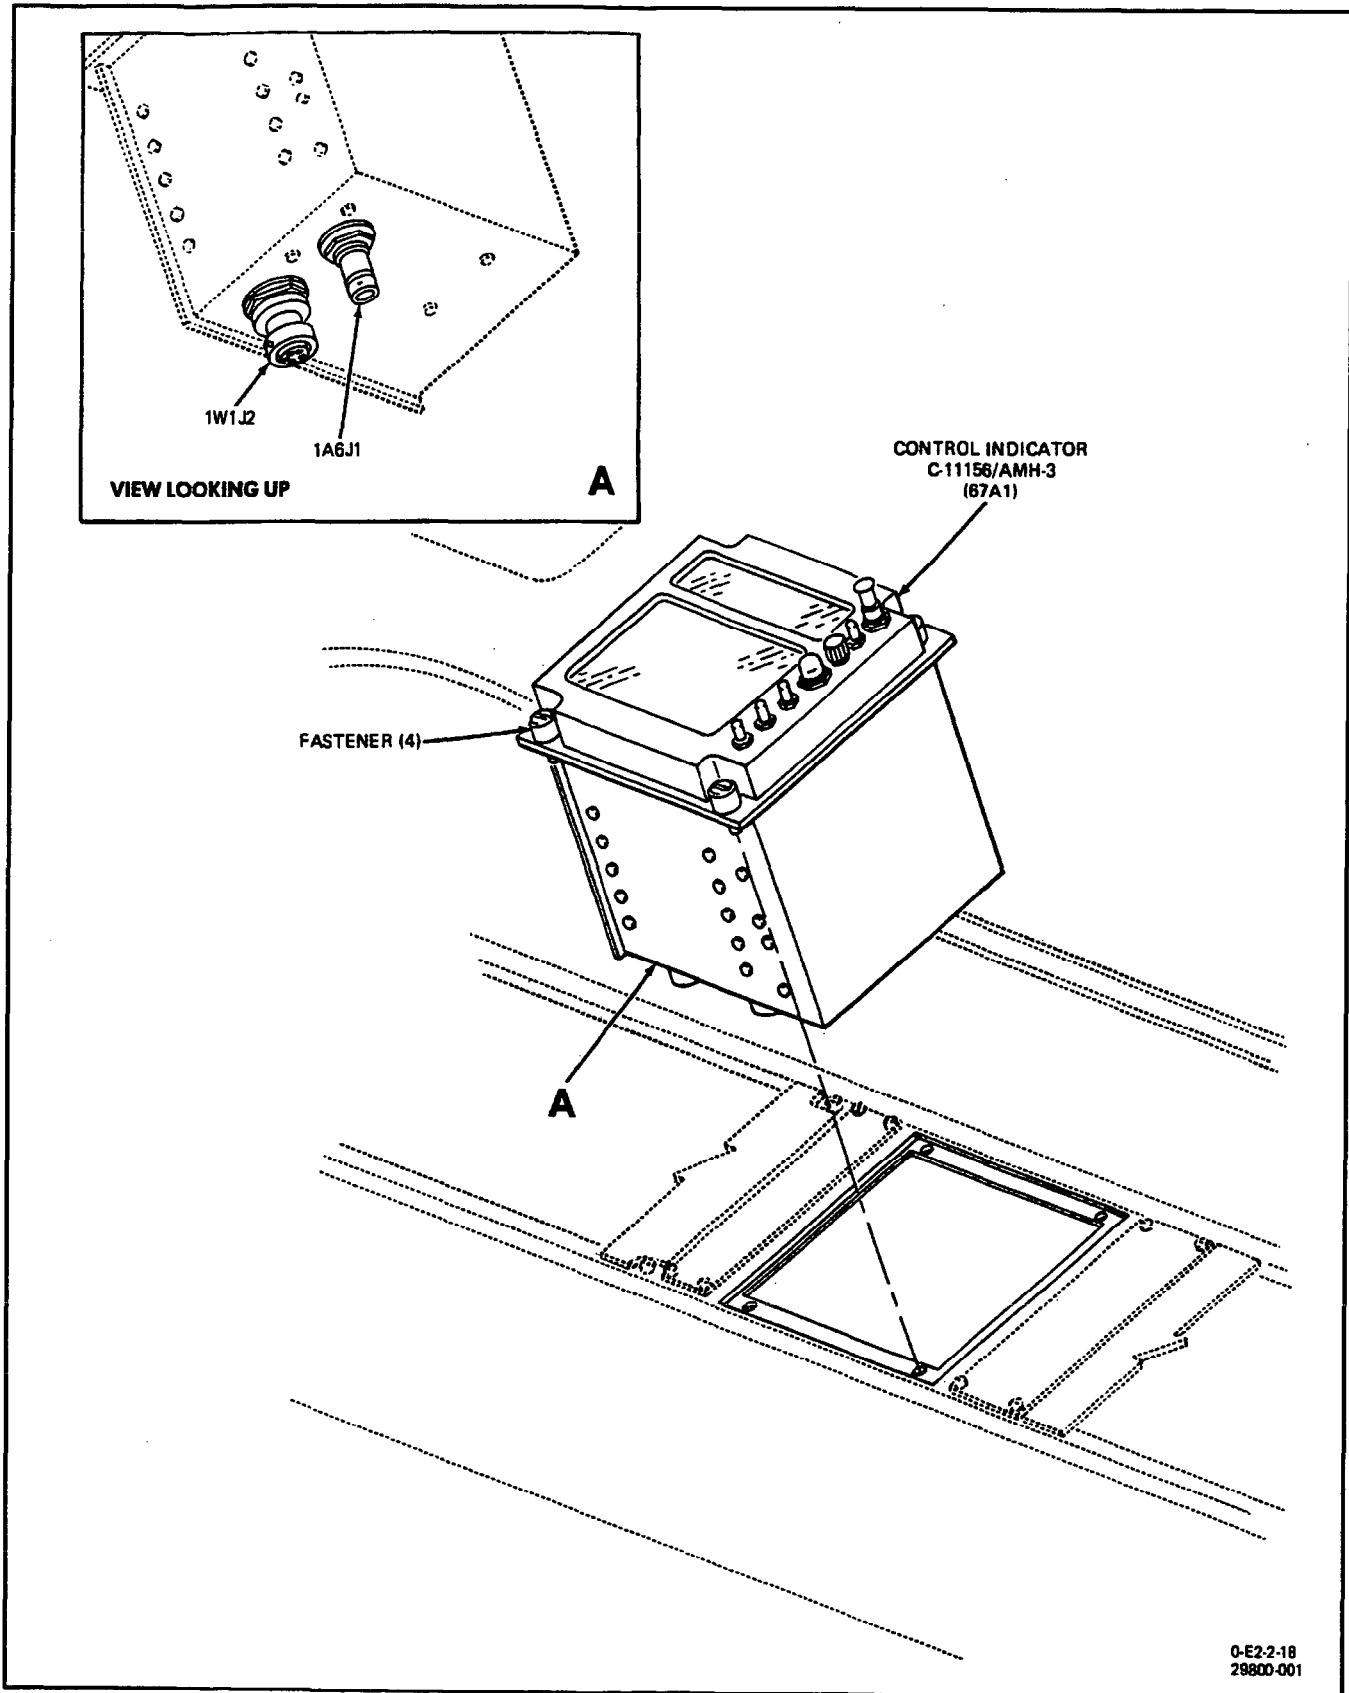

Figure 1. Removal and Installation of Control Indicator C-11156/AMH-3
2. The Control Indicator C-11156/AMH-3 (hereinafter referred to as the control) (67A1) is part of the Airborne Microwave Refractometer AN/AMH-3 system. The control is in the cockpit (copilot's side). Refer to NAVAIR 01-E2AAA-2-18.1, WP003 00 (figure 1, view C, item 31) for location of control.
**3. REMOVAL.** (Figure 1.)
4. **INSTALLATION.** (Figure 1.)